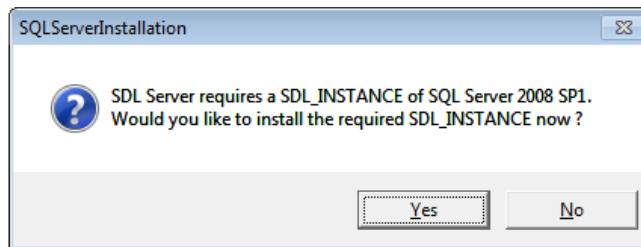
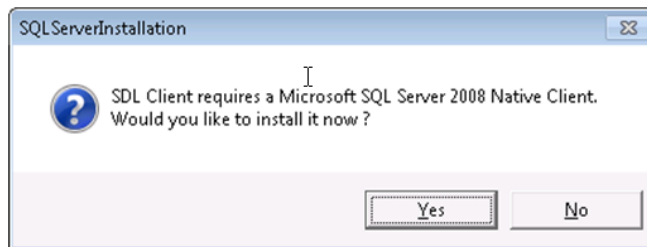

Figure 20. Message Box for SDL Server Installation Type
Figure 21. Message Box for SDL Client Installation Type
- c. **Message box:** The message box differs depending on what was selected in the Setup Type dialog box in Step b. Figure 20 shows the message box for the SDL Server installation type and Figure 21 shows the message box for the SDL Client installation type. Click **Yes** to continue with the installation. Proceed to Step d for SDL Server installations and proceed to Step m for SDL Client installations.